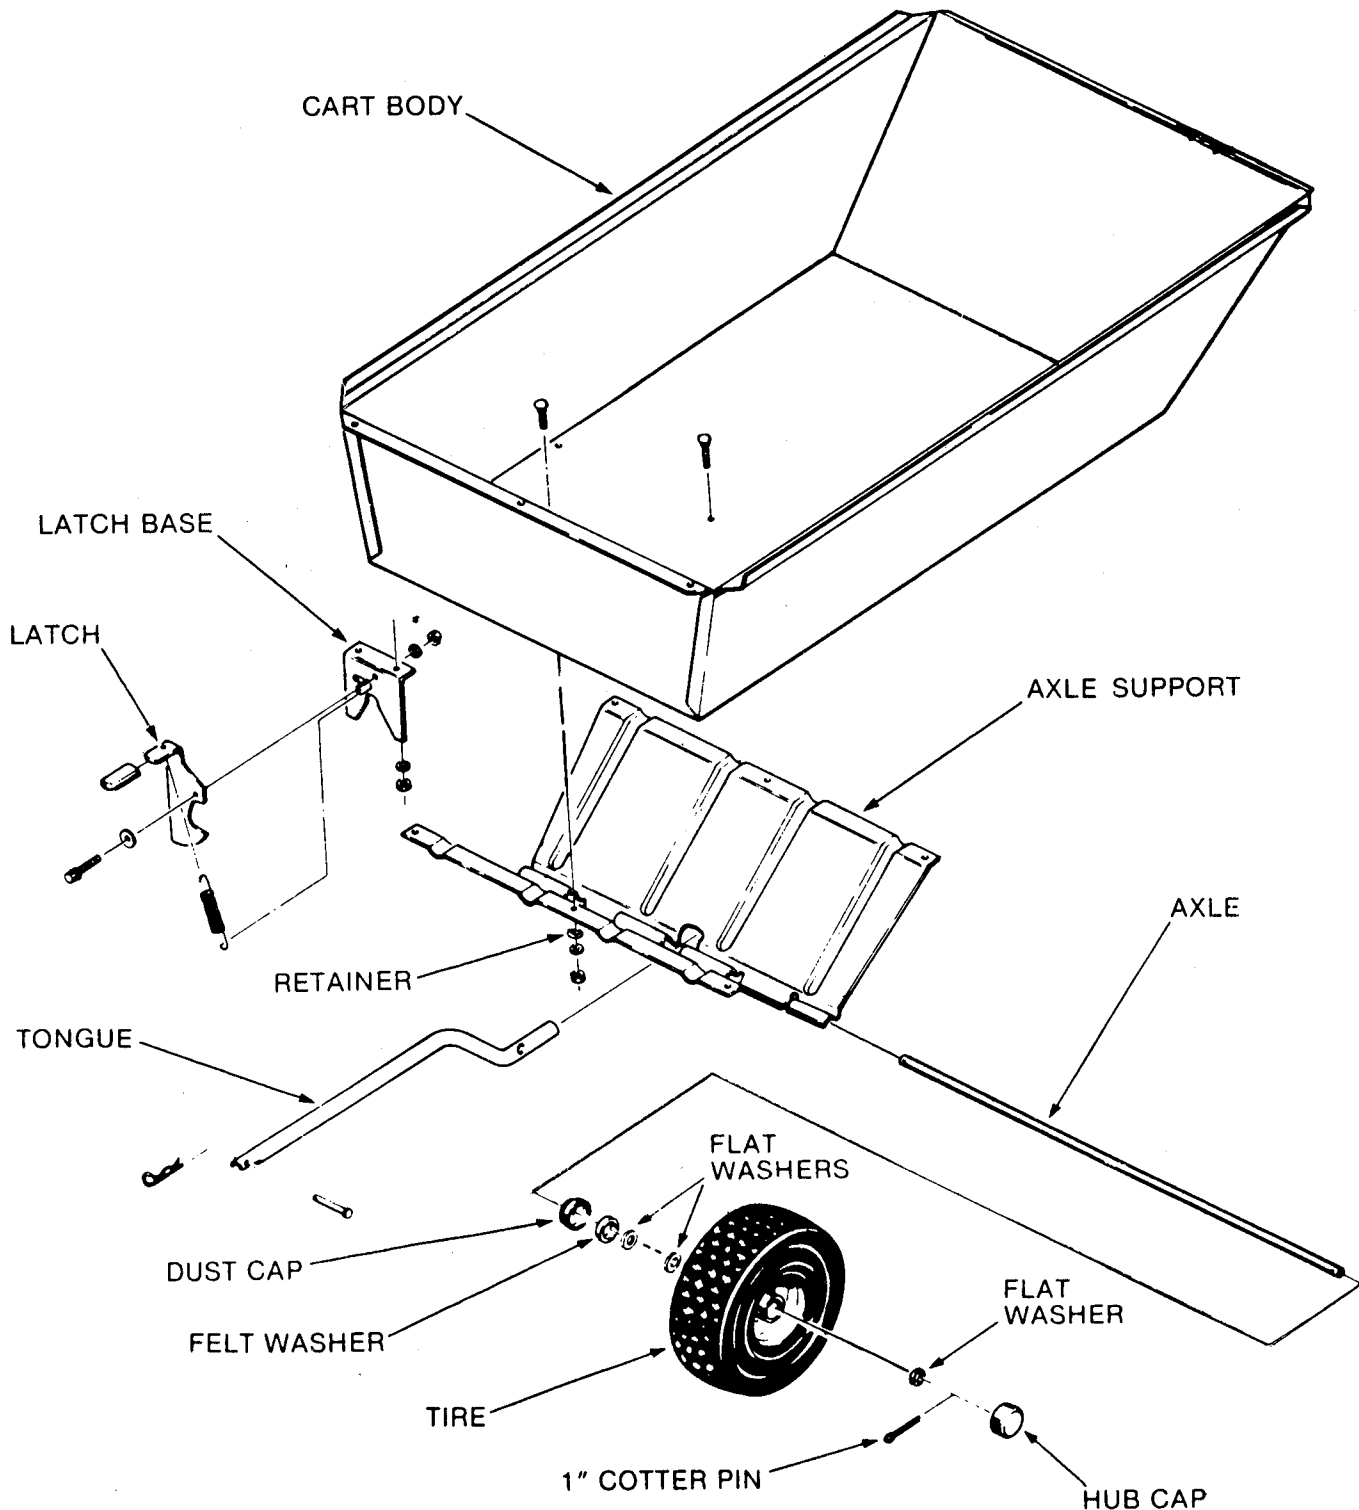

FIG. 3 - BAG-N-WAGON CART ASSEMBLY DETAIL
1. CART ASSEMBLY: Remove the cart body from shipping carton and place it on its side. Refer to figure 3 for sequence and identification of items described. Install six of the 1/4-20x3/4 round head carriage bolts (heads inside cart) in the holes for attaching the axle support, capture each bolt on bottom side of cart with a bolt retainer then position the axle support over the bolts and secure each with a internal tooth lockwasher and 1/4-20 hex nut. Insert